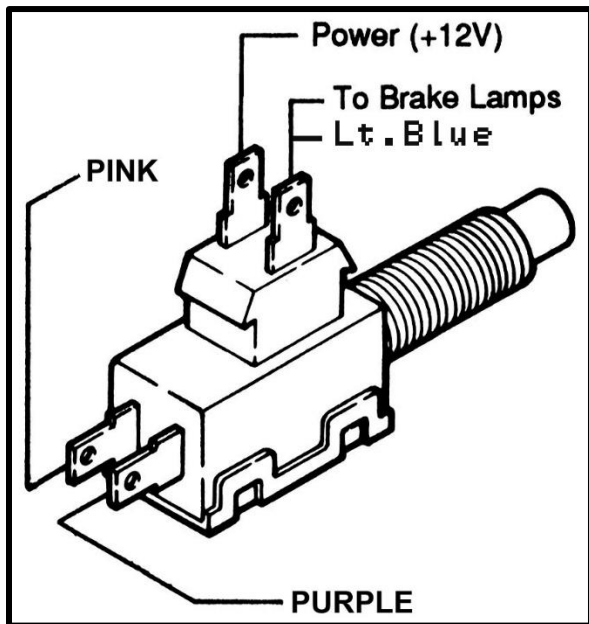

FIGURE 6.2 Brake Switch Connection (A)
- F. The **PURPLE, PINK** and **LT. BLUE** wires labeled BRAKE SWITCH are the wires that connect to the brake switch. The Purple and Pink wires are connected to the normally closed side of the brake switch. Pink is power and Purple is signal to let the computer know when the brake is applied. These wires must be connected so the lock up function of the torque converter and/or cruise control will operate correctly. Connect the Lt. Blue wire to the normally open brake lamp side of the brake switch regardless of which transmission you are using. See **Figure 6.2**.